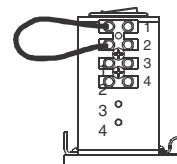

Figure 2
- Using a short jumper cable, jump terminals 1 and 2, see Fig. 2 below, to activate unit. When door reaches 20°, switch Breaker Switch to "OFF" position cutting power to the unit. Allow door to fully close (door may be manually pulled closed).
G. Flip Breaker Switch to “RESET” to turn power on. Jump terminals 1 and 2 (as shown in Fig. 2) to activate door. Note open position of the door. Allow door to close.